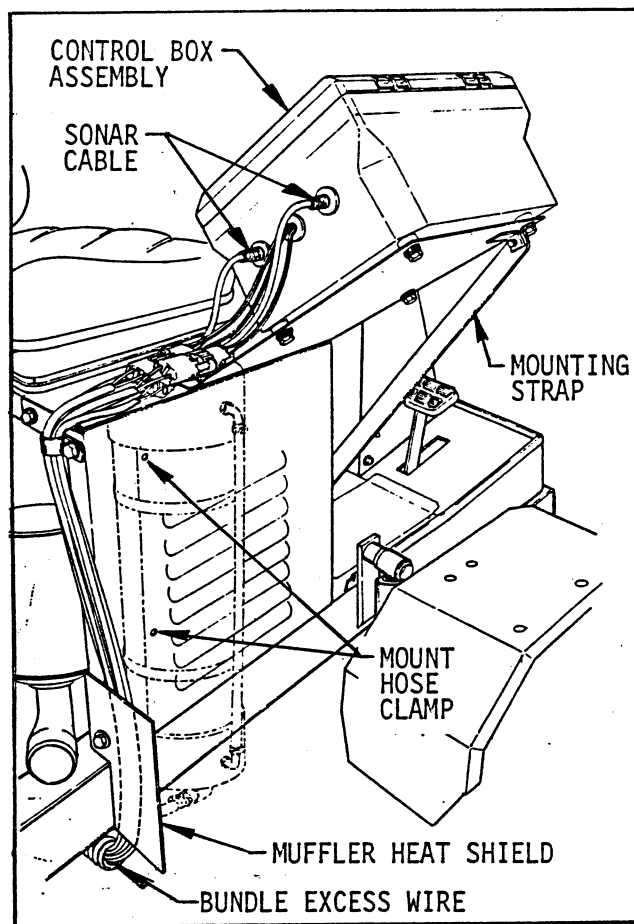

FIG. 3
■ Remove two screws from the top of the Seat Support and use them to secure the Control Box Bracket to the Seat Support. See FIG. 3.